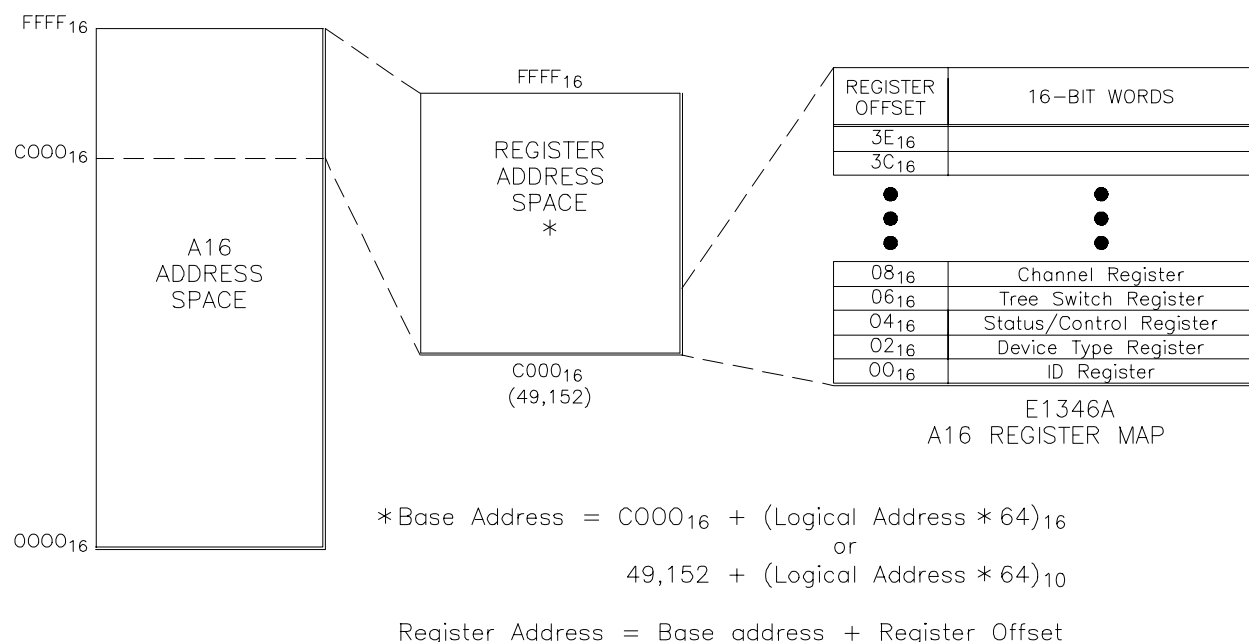
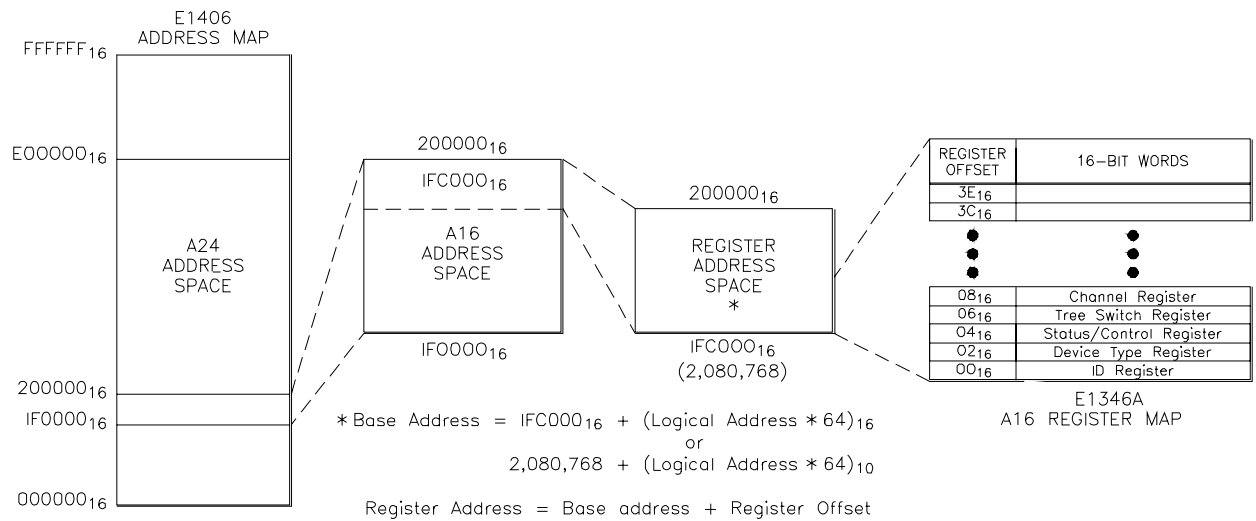

Figure B-1. E1346A Multiplexer Registers within A16 Address Space.
Figure B-2. Multiplexer Registers within E1300/E1406 A16 Address Space.
The 48-Channel Relay Multiplexer Module is a register based device. See Figure B-1 for register definitions.
Figure B-1 shows the register address location within A16. Figure B-2 shows the location of A16 address space in the Agilent E1300/01 mainframe and Agilent E1406 Command Module.
The A16 base address used in register-based programming depends on whether the A16 address space is located inside the E1300(01) Mainframe/E1406 Command Module or elsewhere (e.g. embedded computer). Figures B-1, B-2, and Table B-1 enable you to determine the base address for the following computer configurations:
Using select code 8 requires that you specify a **register number**. The register number is the register offset/2. Referring to Figure B-1, the Channel register with an offset of 08, is register number 4.